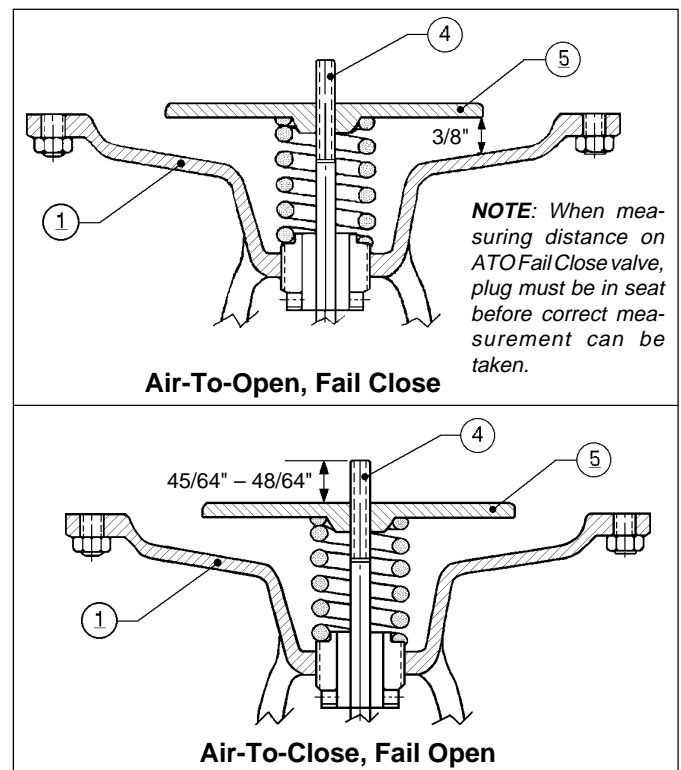

Figure 8: Stroke Setting
2. Refer to Figure 8 to obtain new measurements for proper stroke setting.
3. Install diaphragm (7), diaphragm washer (8)
1. Setting the correct stroke with respect to valve action requires removal of the diaphragm (7). Follow procedures in Steps IV.D.1. through 3.
2. See Figure 8 for correct stroke setting dimensions between the diaphragm plate (5) and the yoke (1) with respect to fail action required.